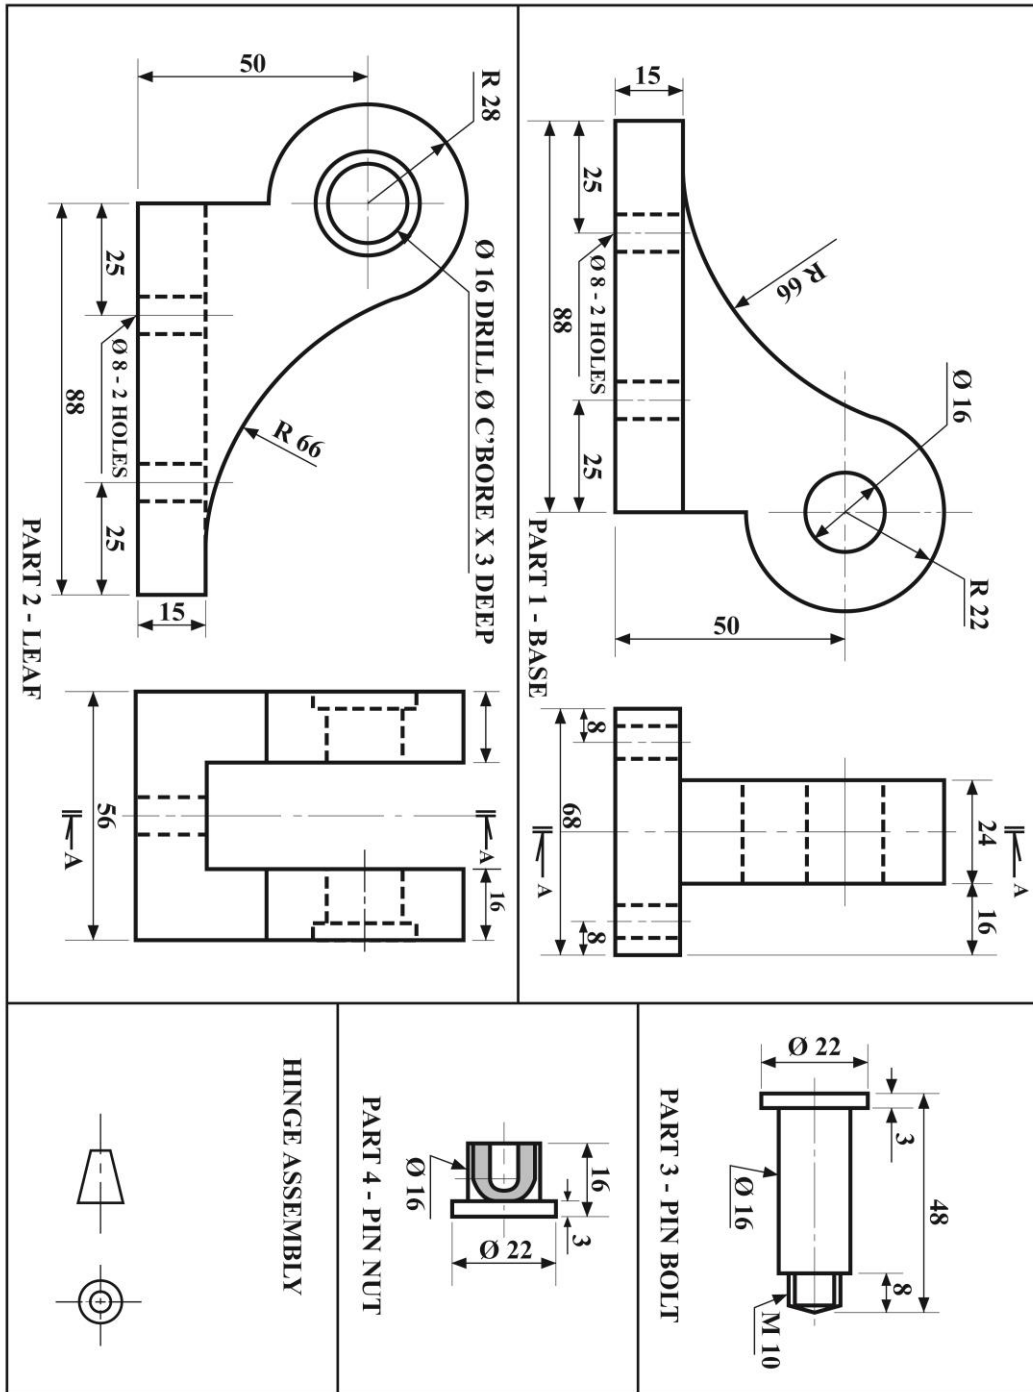

Figure 1
1. Figure 1, on the enclosed sheet, shows the first-angle orthographic projection details of the parts that make up a Hinge Assembly. In assembly, part (2), the leaf, is fitted over part (1), the base, and is set at right angle (90^0) to it. The parts are fixed by the pin bolt, part (3), and secured by the pin nut, part (4).